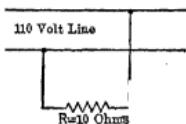

FIG. 24. A coil of 10 ohms across a 110-volt circuit.
15. Series Circuit. Resistance. In Fig. 24, a resistance coil R of 10 ohms is connected across the terminals of a 110-volt line. By Ohm's Law the current must equal volts $\frac{110}{10} = 11$ amperes.